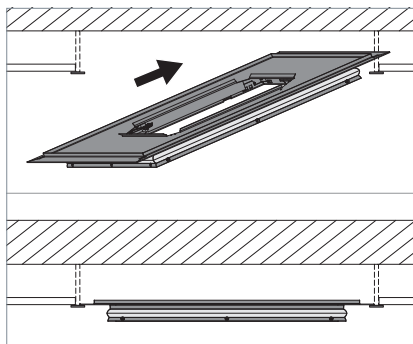

Fig. 1: Inserting the luminaire frame into a ceiling grid.
- ▶ Insert the luminaire frame into a ceiling grid, see Fig. 1.